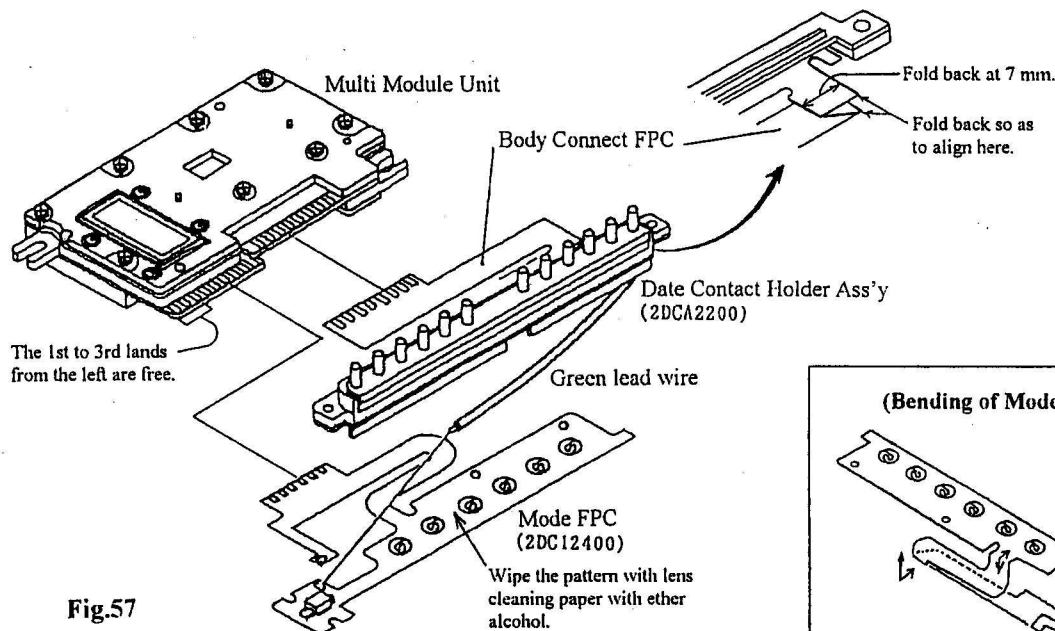

Fig.57
- 1) Set the Mode Button (2DA22110) in the Back Cover (D).
- 2) Wipe the pattern on the Mode FPC with lens cleaning paper with ether alcohol. (See Fig. 57)